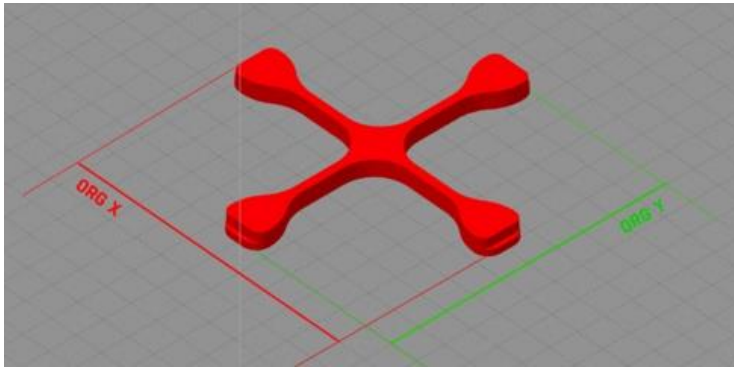

Fig. 2 Model *Dimmension\_Calibration.stl*
1. Download the .stl model of the calibration solid *Dimmension\_Calibration.stl* (Fig.2). The .stl model can be downloaded from [www.3dgence.com/support](http://www.3dgence.com/support) in the tab *Your files* (the tab is available after you sign up and register your device).